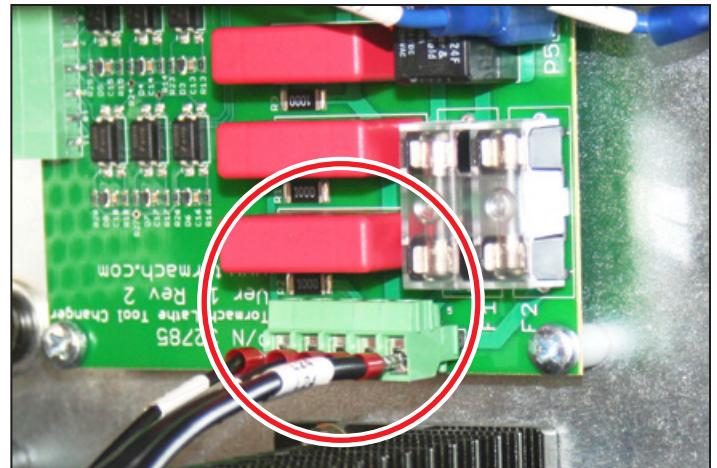

Figure 19
9. Route the Power Connector Block to the Turret Control Board as shown in **Figure 14** and **Figure 19**.